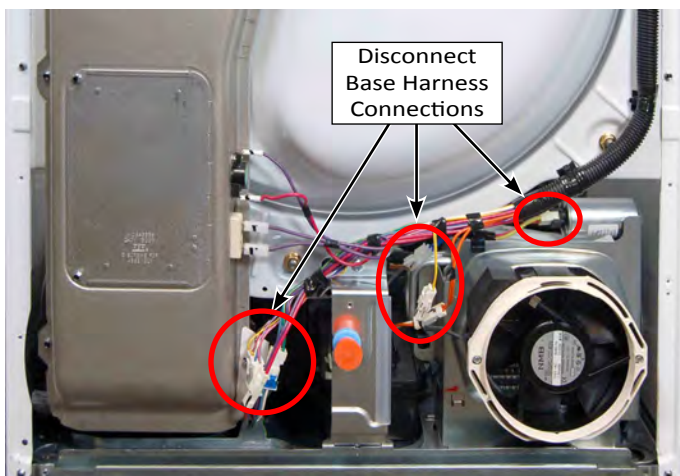

Figure 1
4. Disconnect the harnesses from the CCU and REX control boards (Refer to page 4-6). Remove two (2) 1/4" hex-head screws securing the control bracket to the dryer. Remove the bracket and control boards.
8. Disconnect all the harness connections to the base assembly as illustrated in Figure 1, except for the heater and high limit thermostat.